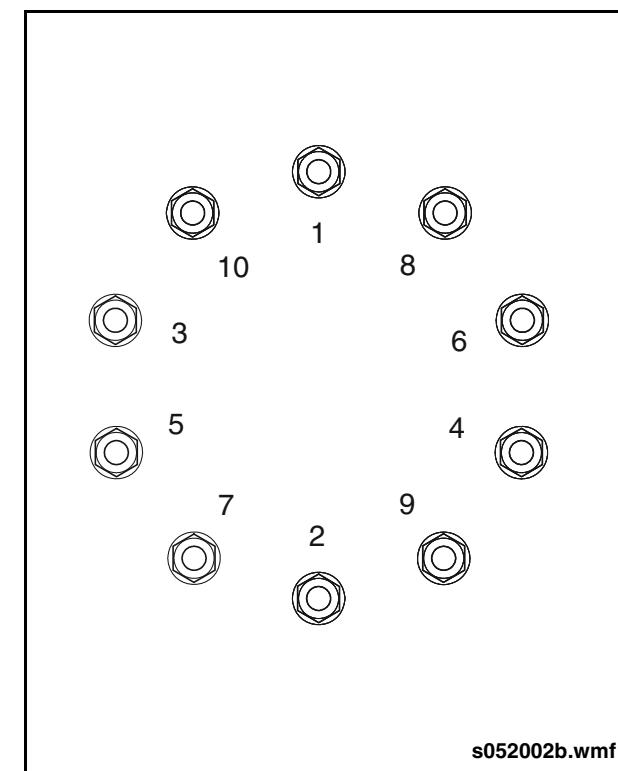

Fig. 1-5: Wheel Nut Torquing Sequence
- Using torque wrench, pretorque wheel nuts to 200 ft-lb. (272 Nm). See "Fig. 1-5: Wheel Nut Torquing Sequence" on page 8.